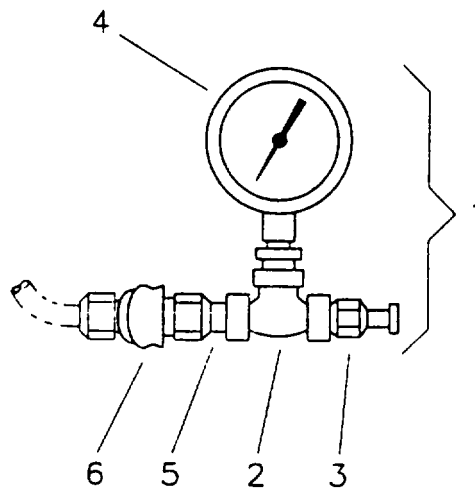

Figure 4-10. Halon Cylinder Adapter Assembly Repair
**4-18. HALON CYLINDER ADAPTER ASSEMBLY W/GAUGE. REPAIR. (Refer to Figure 4-10)**